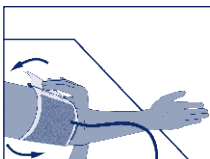

Figure 5
- Now pull the free end of the cuff tight and close the Velcro fastener (Figure 5).